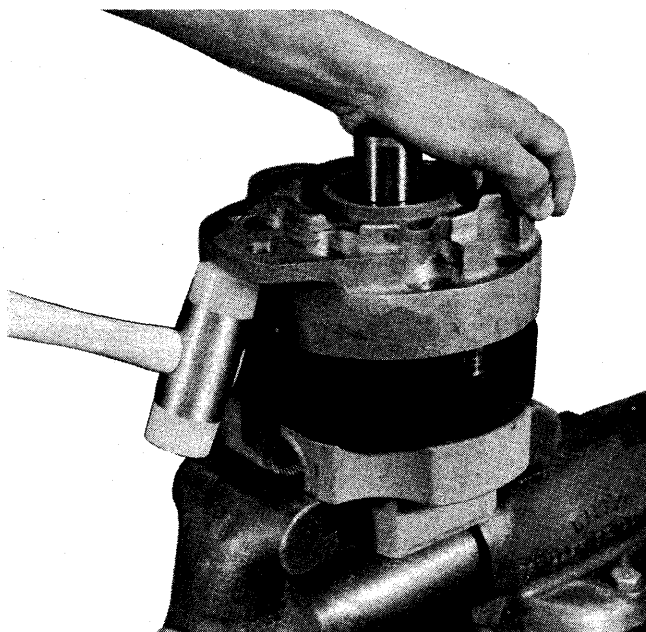

FIGURE 2
3.) Using the soft-faced hammer or mallet, tap upward on the ear of the SAE mounting flange. (Fig. 2.) By putting the heel of your hand over the output shaft and your fingers on the opposite ear you can keep the front end cap from falling back down after each successive rap.